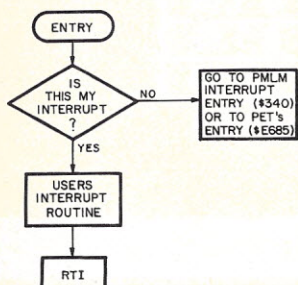

Fig. 1. Interrupt routine outline.
*Use of interrupts.* Since PET uses interrupts (every 60th of a second) to refresh the screen and scan the keyboard, and since PMLM uses them for the STOP feature, the user must be cautious in using interrupts. In any case, his routine must obey principles outlined in Fig. 1.